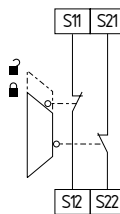

Fig. 10
**Dual-channel guard door monitoring circuit with interlocking device to EN ISO 14119 (Fig. 10)**